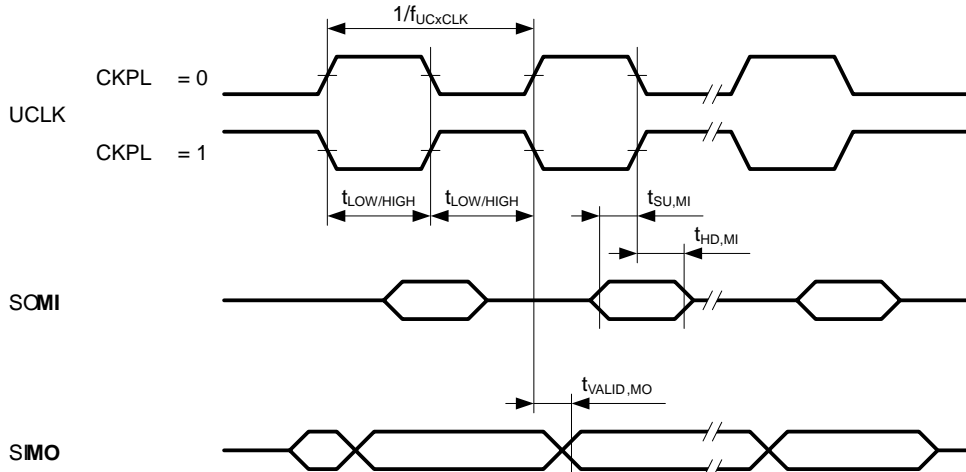
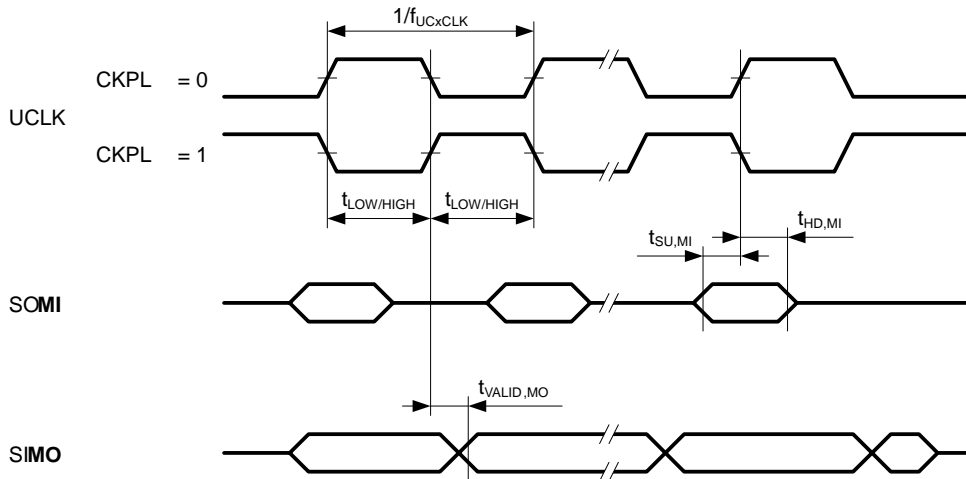

Figure 18. SPI Master Mode, CKPH = 0
Figure 19. SPI Master Mode, CKPH = 1
**USCI (SPI master mode) (see Figure 18 and Figure 19)**